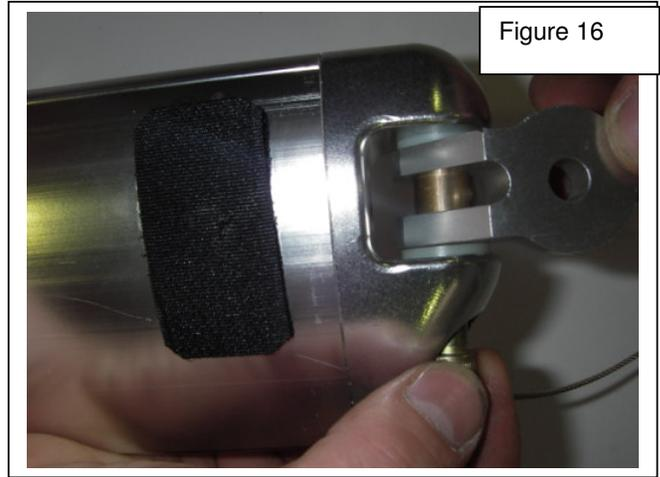

Figure 16
5. Fit u bracket knuckles item 18 of drawing 6481. The two nylon washers are re-used. See figure 16.
6. Tighten shoulder bolt lightly, item 8 of drawing 6481, making sure knuckle is in correct orientation.